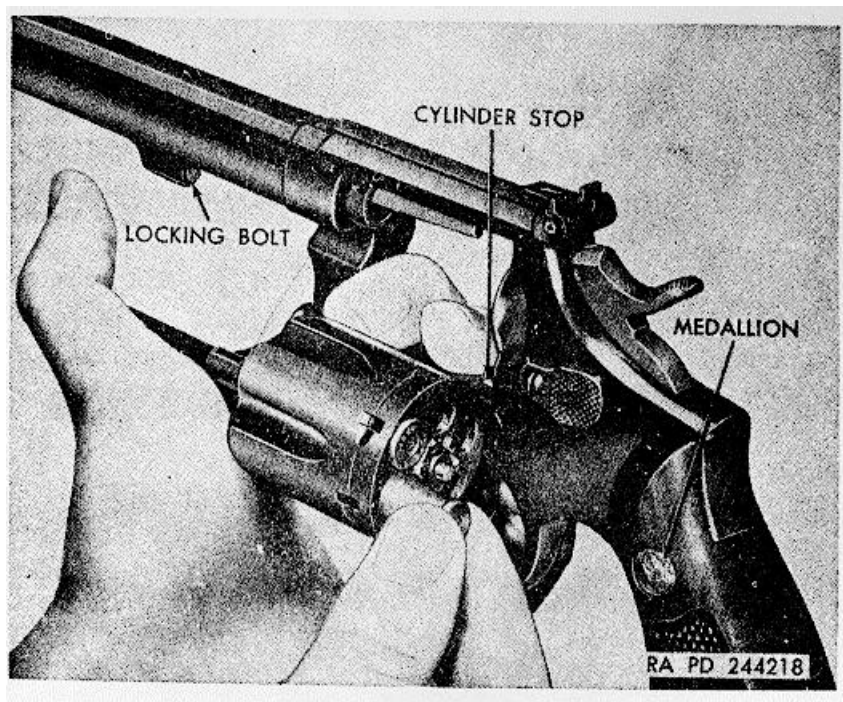

Figure 37. Loading cartridge into cylinder (Smith and Wesson).
- (1) Depress the thumbpiece (par. 12a) and swing the cylinder and yoke out of the frame (par. 12d).
- (2) If the weapon has been fired previously, press in on the extractor rod (par. 12b) to extract the cartridge cases.
- (3) Insert six rounds into the cylinder (fig. 37).
- (4) Swing the cylinder and yoke into the frame. It should be locked shut by the locking bolt (fig. 37) and the bolt (M, fig. 58).